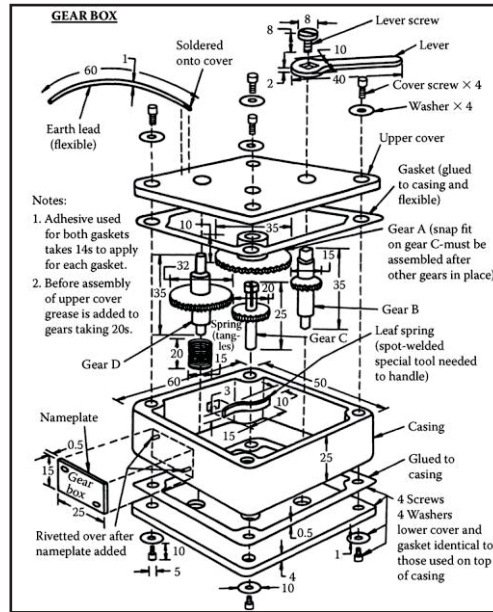

Figure 5
3. Suggest a suitable assembly processes and appropriate tools for the gear box assembly as shown in figure 5. Identify the expected bottleneck operation in this assembly and predict the estimated time for the same.